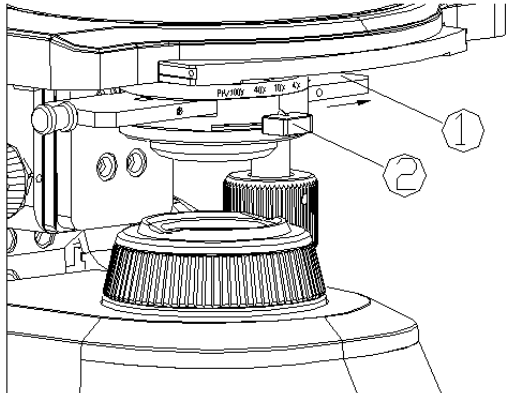

Fig. 20
Assembly and Operation of Phase Contrast Accessories (OPTIONAL) - (Fig. 20)
Keep the phase contrast slider ① face up (the side with words should be oriented up), insert it from left to right into the condenser slider slot as the direction of the arrow pointed (see Fig. 20).